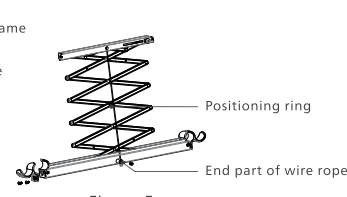

Figure 5
2. As shown in Figure 5, pass the wire rope through positioning ring, then place the end part of wire rope in retainer and lock it with retainer cover.